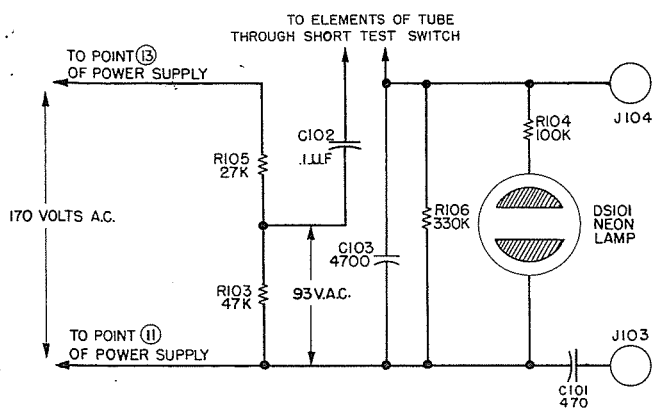

Figure 2-5. Simplified Short Test Circuit
5. SHORT TEST. (See figure 2-5)
6. NOISE TEST. (See figure 2-5)